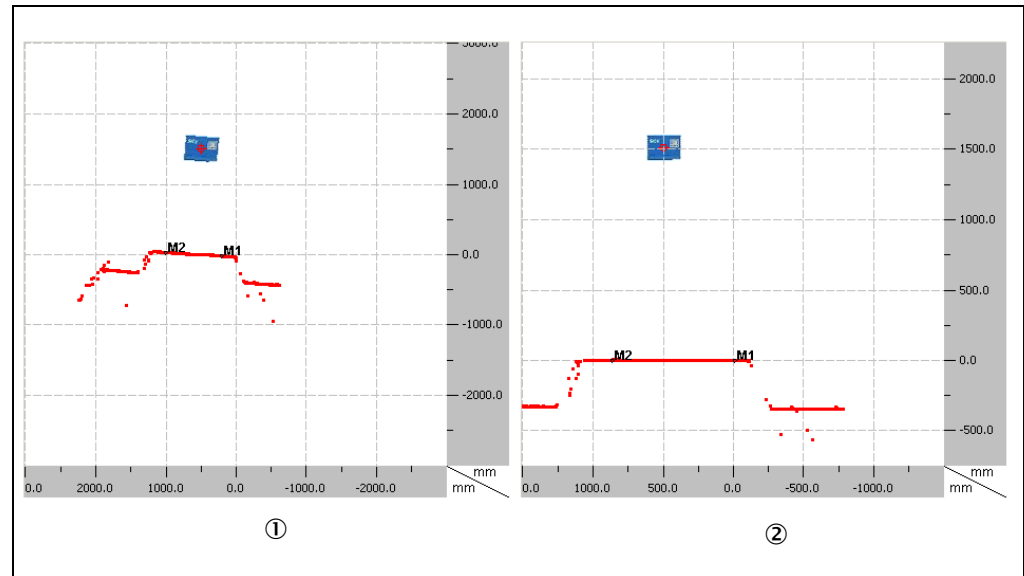

Fig. 38: Example of a scanned conveyor system
- Position two marks using the right mouse button (M1 and M2) (see Fig. 38 ①). Ensure the marks are as close as possible to the edges of the surface of the conveyor but not on the side limits of the conveyor system.
The angle γ and the z coordinate are calculated and the scan line drawn horizontally in the diagram (see Fig. 38 ②).